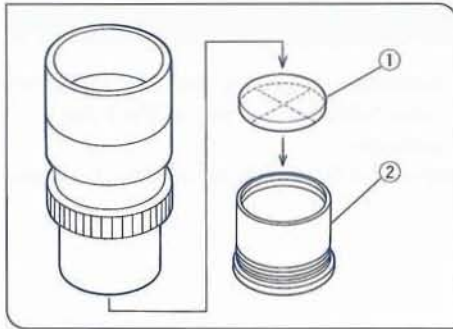

Fig. 36
(Fig. 36)
Following Fig. 36, unscrew the micrometer frame ② from the eyepiece, place a micrometer ① into the frame. Screw the micrometer frame into the eyepiece as it was before. (Please use  $\phi 24 \times 1.5$  mm micrometers.)